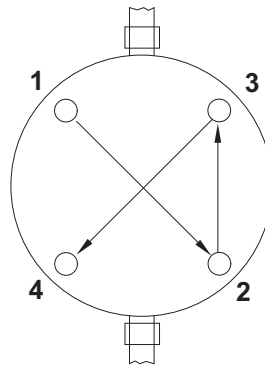
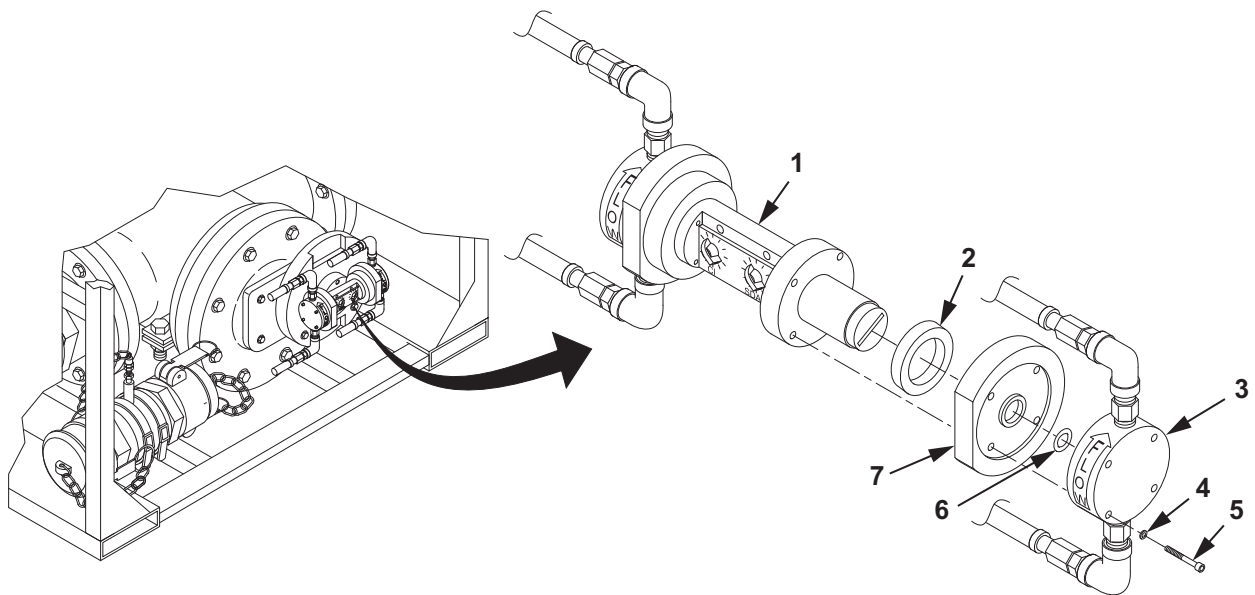

Figure 2. Torque Pattern Diagram.
Figure 3. CI and SDA Injection Pump Lip Seal Installation.
2. Install adapter seal (Figure 3, Item 7) on CI and SDA injection pump (Figure 3, Item 1).
3. Install new O-ring (Figure 3, Item 6) in fluid end cap assembly (Figure 3, Item 3).
4. Position fluid end cap assembly (Figure 3, Item 3) on adapter seal (Figure 3, Item 7).
5. Apply antiseize compound to four screws (Figure 3, Item 5).
6. Install four new lockwashers (Figure 3, Item 4) and four screws (Figure 3, Item 5) through fluid end cap assembly (Figure 3, Item 3) into adapter seal (Figure 3, Item 7).
7. Tighten four screws (Figure 3, Item 5) finger tight.
8. Using a torque wrench, screwdriver bit, and torque pattern diagram (Figure 2), torque screws (Figure 3, Item 2) to 40 in. lb (4.52 N•m).